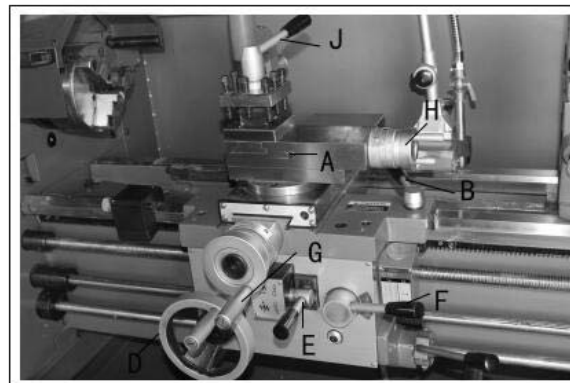

Figure 15
8. **Compound Lock (A, Fig. 15)** – hex socket screw located on left side of compound. Turn clockwise to lock and counterclockwise to unlock.
9. **Carriage Lock (B, Fig. 15)** – lock handle located on top of carriage. Turn clockwise to lock. Turn counterclockwise to unlock.
10. **Longitudinal Traverse Hand Wheel - (D, Fig. 15)** – located on the apron assembly. Rotate hand wheel clockwise to move the apron assembly toward the tailstock. Rotate the wheel counterclockwise to move the apron assembly toward the headstock.
11. **Feed Selector (E, Fig. 15)** – located in the center front of the apron assembly. Pushing lever to the left and down activates the crossfeed function. Pulling lever to the right and up activates the longitudinal function.
12. **Half Nut Engage Lever (thread cutting)** (F, Fig. 15) – located on front of the apron. Move the lever down to engage. Move the lever up to disengage.
13. **Cross Traverse Handwheel** (G, Fig. 15) – located above the apron assembly. Rotate clockwise or counter-clockwise to move, or position.
14. **Compound Rest Traverse Handwheel** (H, Fig. 15) – located on the end of the compound slide. Rotate clockwise or counter-clockwise to move, or position.
15. **Tool Post Clamping Lever** (J, Fig. 15) – located on top of the tool post. Rotate counter-clockwise to loosen and clockwise to tighten.